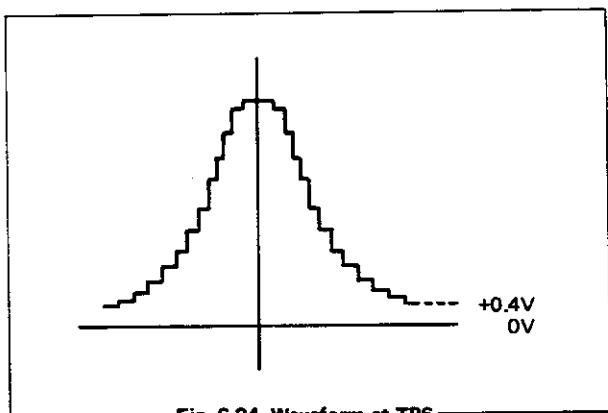
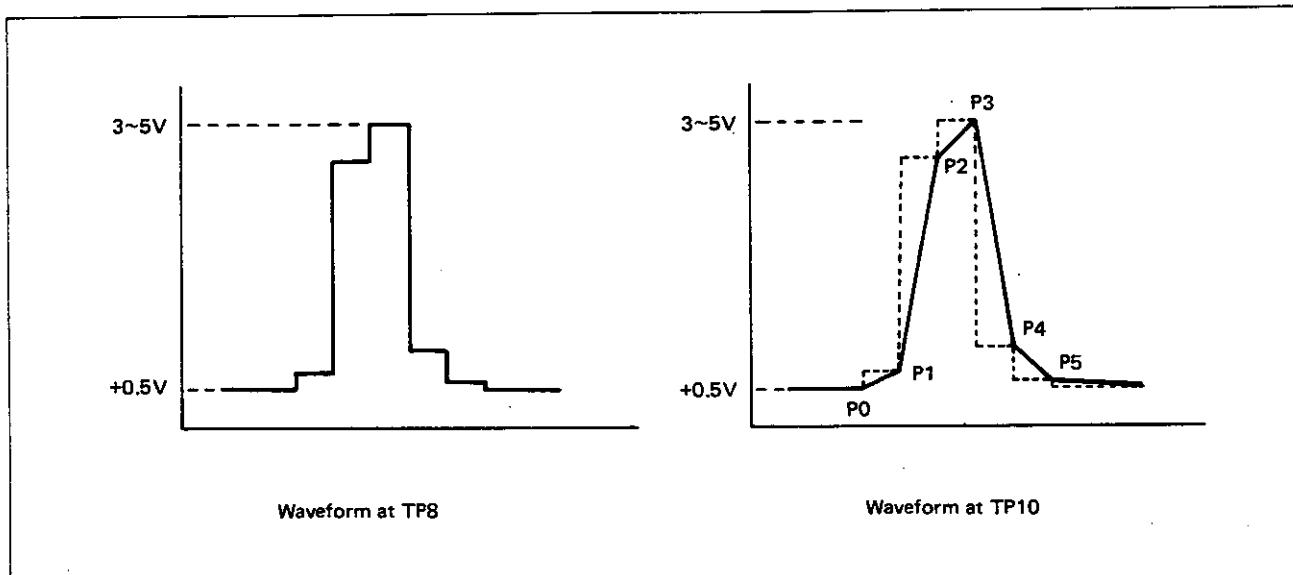

Fig. 6-24 Waveform at TP6
Fig. 6-25 Line Generator Adjustment
- (5) Adjust R246 so that the waveform at TP6 observed on the oscilloscope moves by +0.4V (as shown in Fig. 6-24) when the base line is placed at -80dB graticule line on the CRT of the **TR4132/4132N**.
(6) Adjust R245 so that the reference voltage for the D/A converter is 4.7V at TP7.
- (7) Observe the signal waveform at TP8. Then check the waveform at TP10 and adjust C290 so that points P0 through P5 on the waveform overlap with those on the waveform at TP8 (line generator adjustment). See Fig. 6-25.